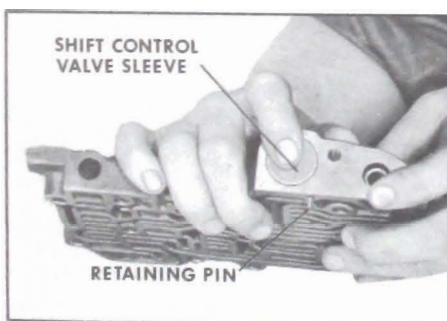

Figure 5-168
2. Depress shift control valve sleeve and remove retaining pin by turning valve body over so pin will fall free. Remove shift control valve sleeve, shift control valve, spring, washer, and shift valve. See Figure 5-168.